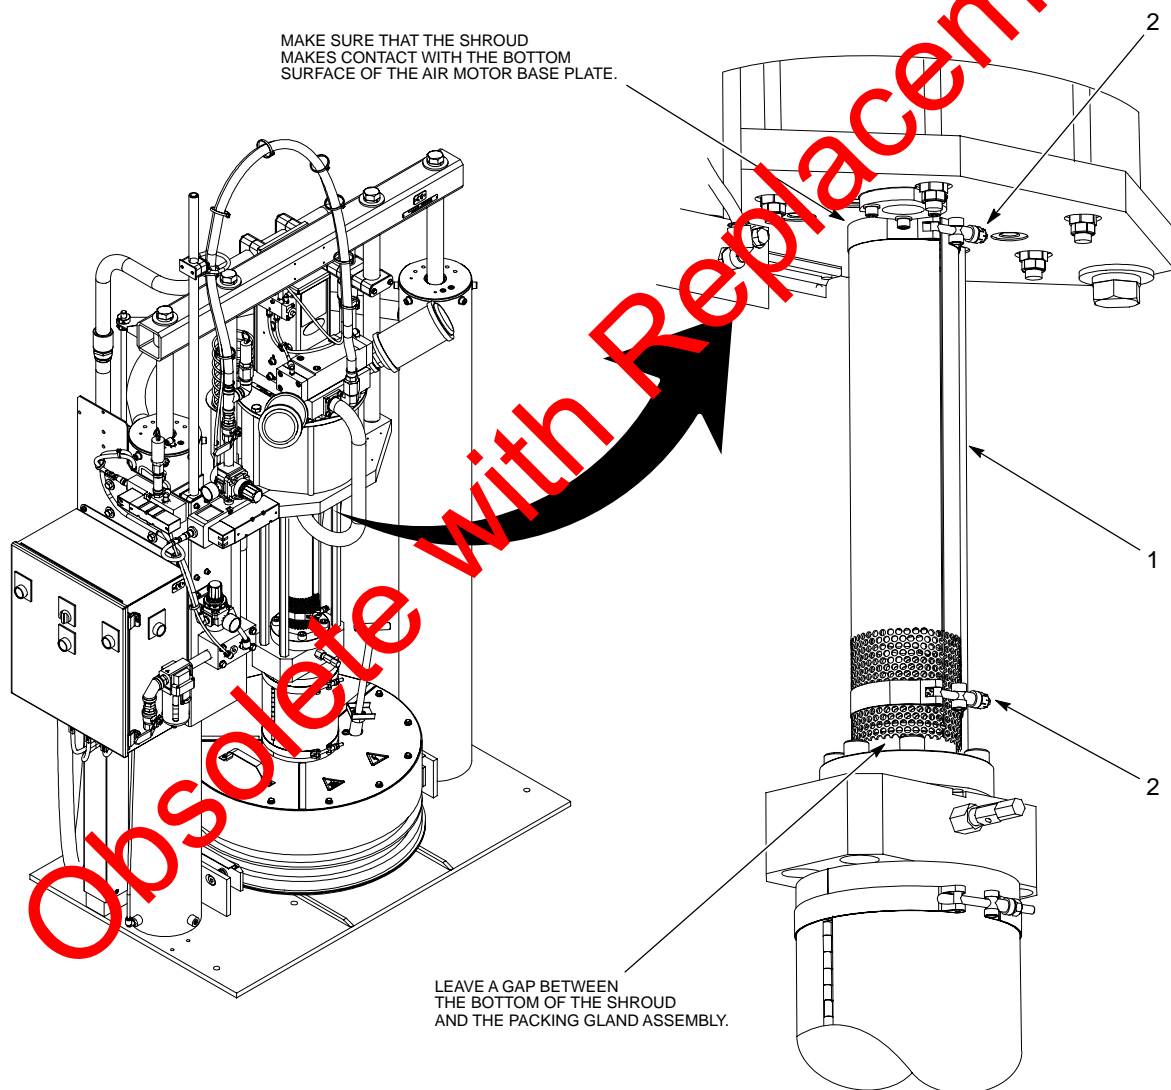

Figure 1 Rhino SD2/XD2 Drive Train Shroud
See Figure 1. The Rhino SD2/XD2 Drive Train Shroud (1) prevents access to the following pinch-point components during pump operation:
Install the Drive Train Shroud as shown in Figure 1. Tighten the band clamps (2) securely.